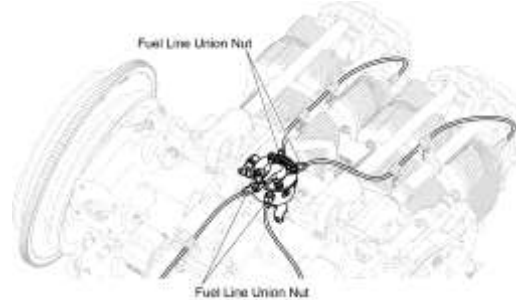

Figure 2
- D. Torque the fuel line union nut (Figure 2) between 35 to 50 in.-lb. (4 to 6 Nm).